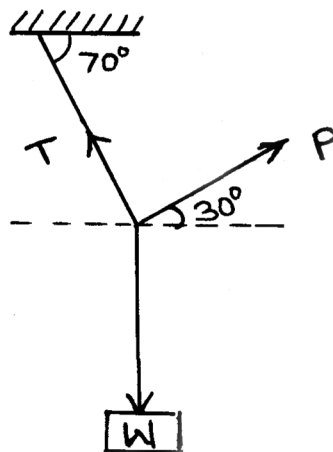

Fig. No. 6.
- e) A body of weight 50kN is hung by means of a string to the ceiling. Determine the pull required and tension in the string when string has an inclination  $70^\circ$  with the ceiling and pull is applied at  $30^\circ$  with the horizontal. Refer Fig. No. 6.